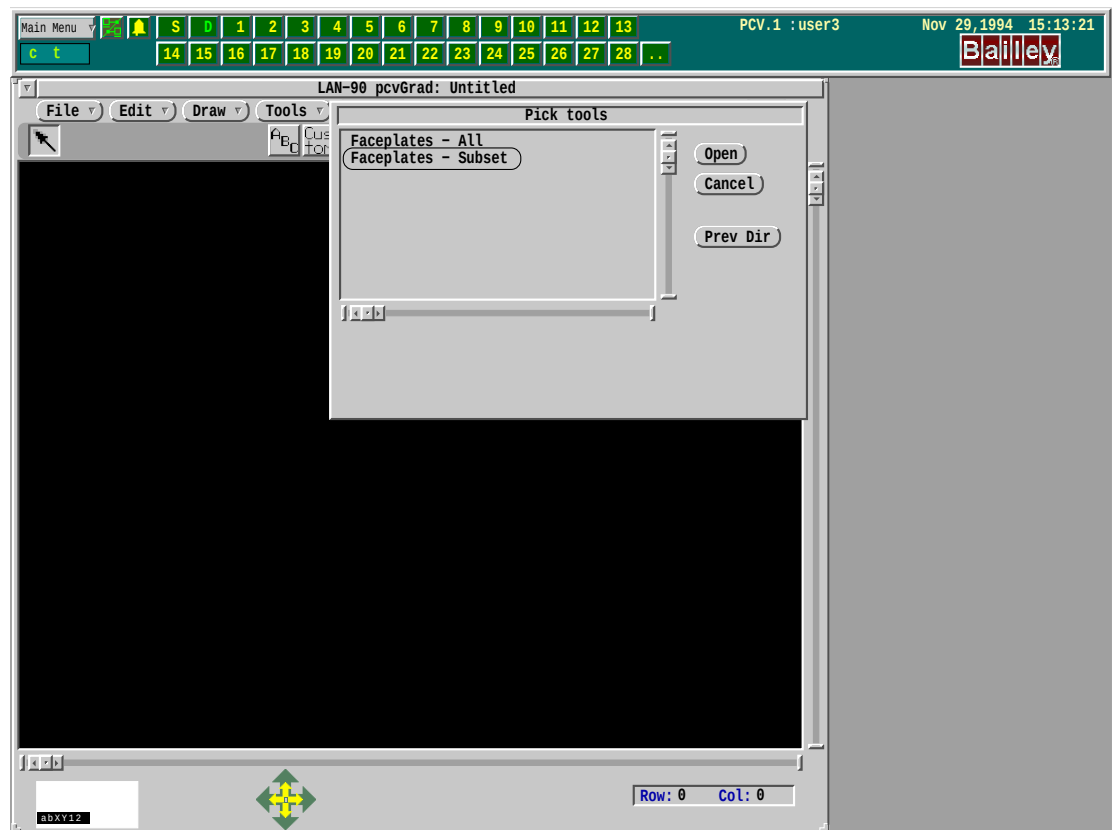

Figure 6-2. Accessing Tools
- Click on **Tools** on the button bar, select and open **Faceplates - Subset** (Figure 6-2).